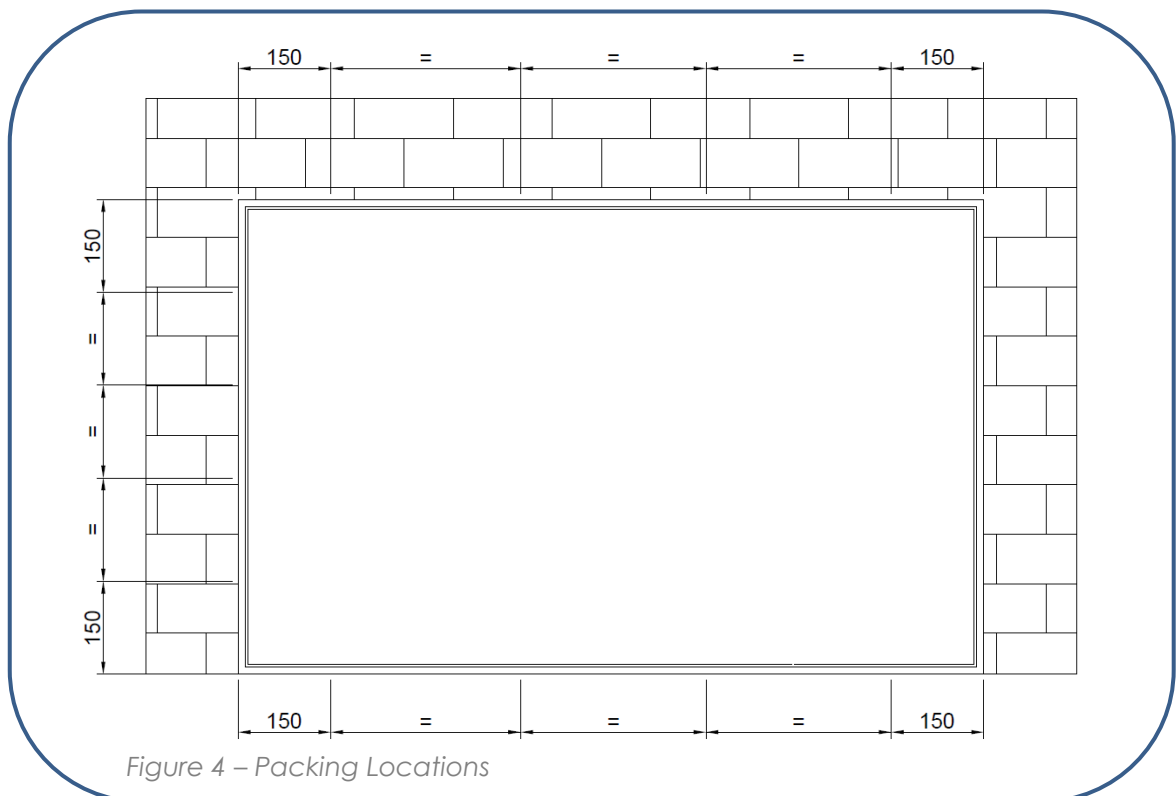

Figure 4 – Packing Locations
1. Remove machine screws on the hinges to release the door leaf (See Figure 4).
See 'Figure 4' below for packing locations.